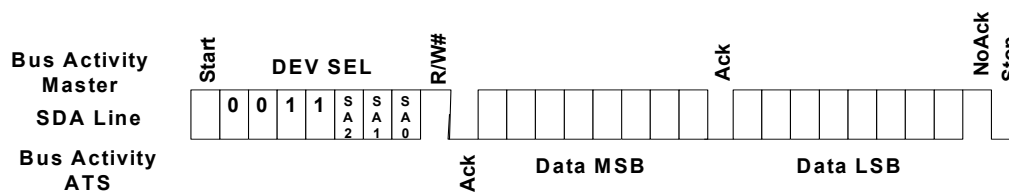
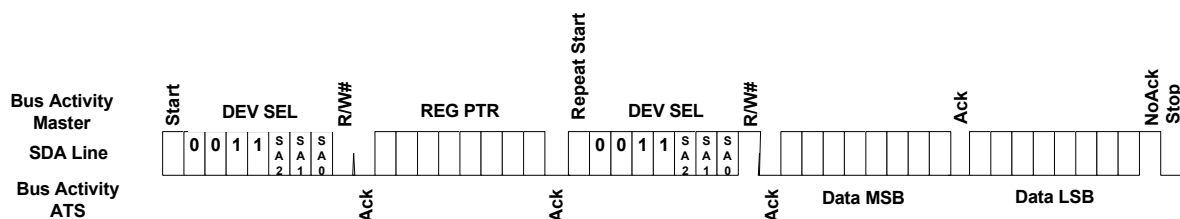

Figure 12 — I²C Bus Preset Pointer Register Word Read
Figure 13 — I²C Bus Pointer Write Register Word Read
2. The pointer register is loaded with the correct register address, and the data is read. The sequence to preset the pointer register is shown in Figure 12, and the preset pointer read is shown in Figure 13. If it is desired to read random address each cycle, the complete Pointer Write, Word Read sequence is shown in Figure 14.